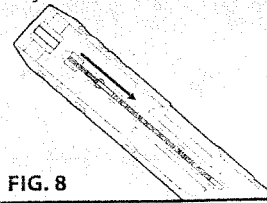

FIG. 8
4. After the Built-in Magazine has been loaded with a maximum of 15 BBs, slowly release the Built-in Magazine BB follower and allow it to rest up against the BBs. This will allow the BBs to be under spring tension (Fig. 8).
tension (Fig. 8).